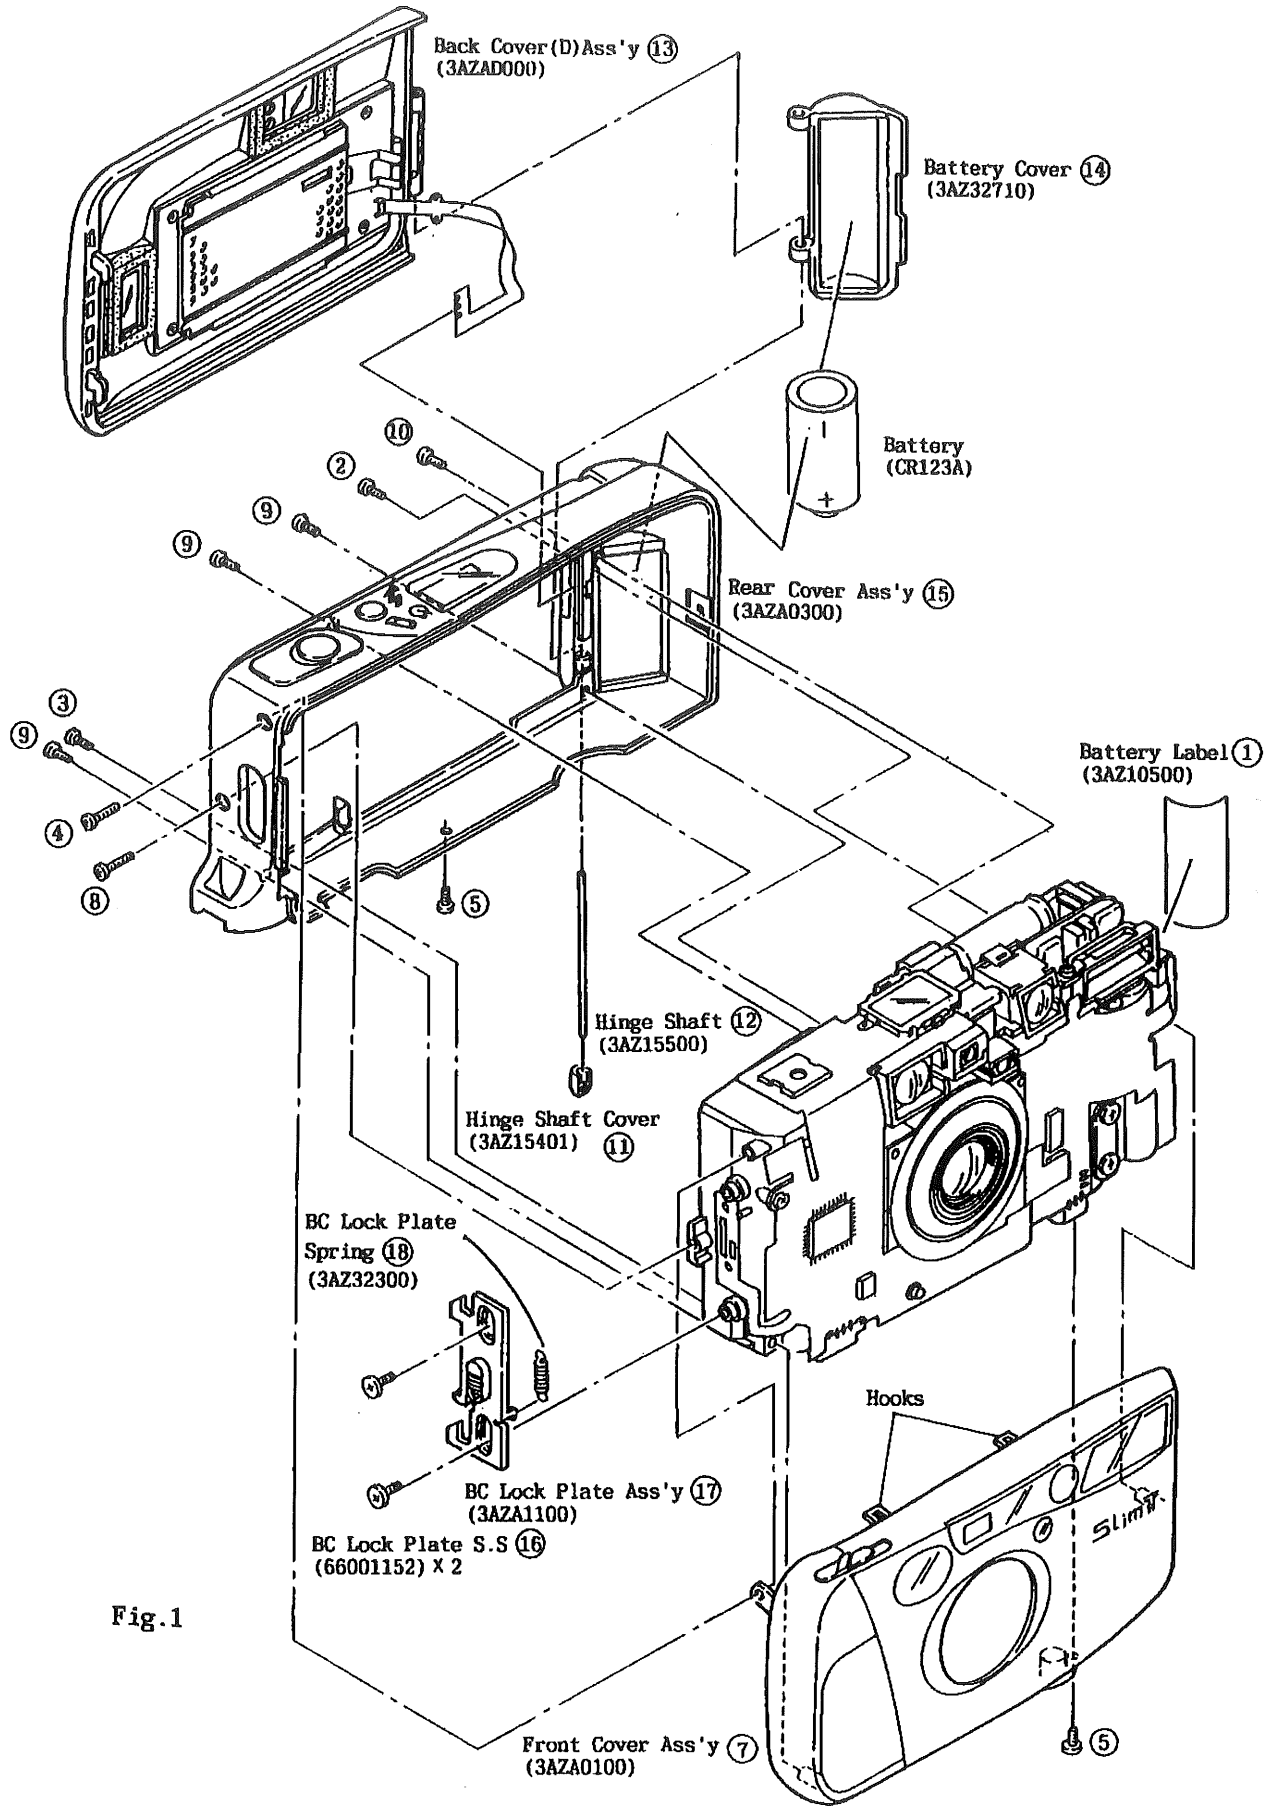

Fig.1
B-1-1 Removal of Front Cover Ass'y (See Fig.1)
B-1-3 Removal of Back Cover (D) Ass'y (See Fig.1)
- 1) Remove the Hinge Shaft Cover (3AZ15401) ⑪.
B-1-4 Removal of BC Lock Plate Ass'y (See Fig.1)